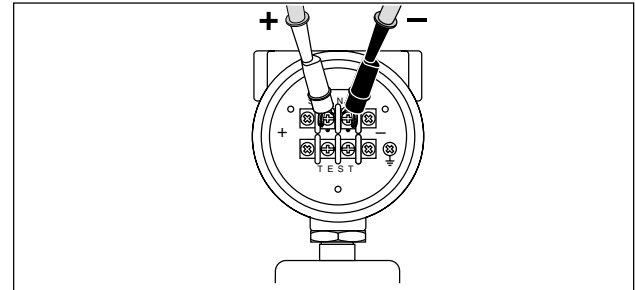

Figure 7. Sourcing Loop Voltage
2. With the transmitter disconnected from normal loop power, connect the Calibrator mA (+) and COM (-) test leads in series with the instrument current loop as shown in Figure 7.